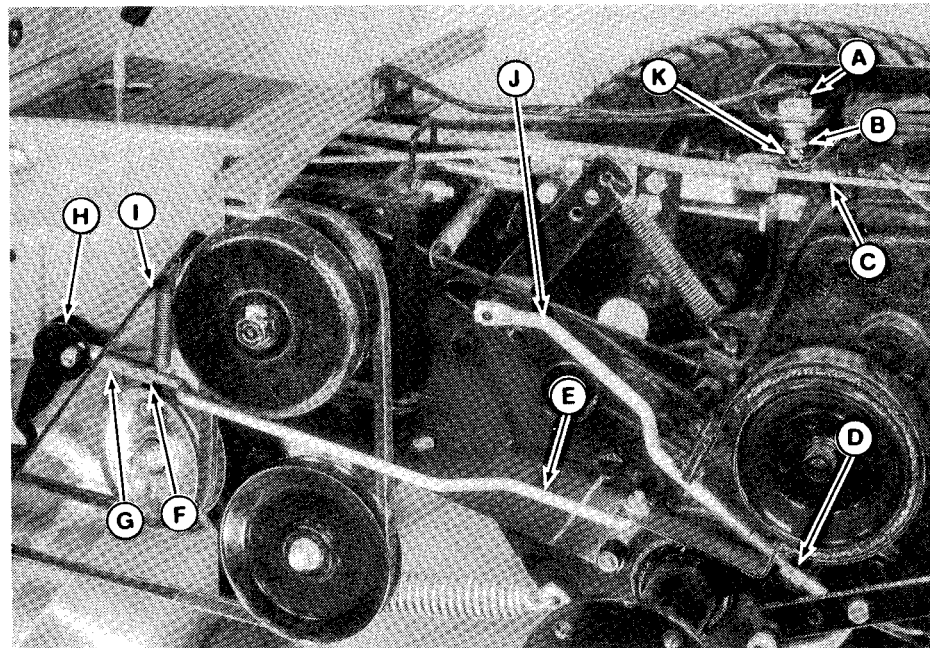

Figure 24. Semi-Automatic
1. **To adjust parking brake**, loosen the jam nut (F, figure 24) at parking brake rod end. Rotate the parking brake lever (H) clockwise until it is tight and pulled up against fender as shown. Operate the lever to see if it is too tight or too loose. It should be tight against fender when set but not too tight to operate. When proper adjustment is made, tighten the jam nut.